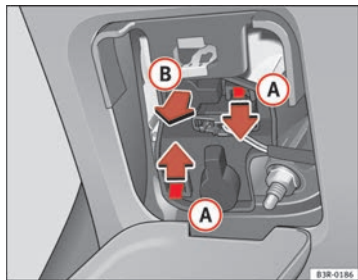

Fig. 220 Remove the bulb holder
- Press on the tabs (A) ⇒ fig. 220 in the direction of the arrows and remove the bulb holder by pulling in the direction of the arrow (B).